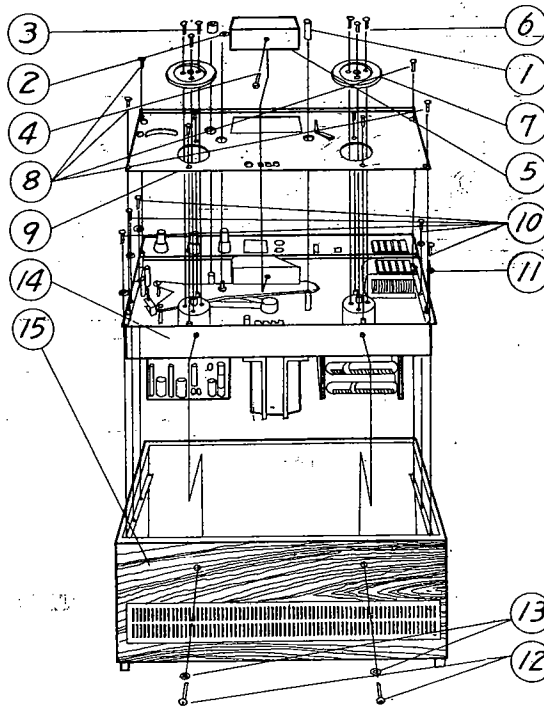

FIG. 3 REMOVING UNIT FROM CASE
3. Remove the following parts and hardware (see Fig. 3).
- Pinch roller (3)
- Dust Cap (2)
- Pull off rubber reel turntable cover (7)
- Reel Tables (7) (left and right) by removing three (each) screws (6)
- Head housing (5) by removing screw (4)
- Remove the collar (1) from guide post
- Four mounting screws (8)
- Face plate (9)
- Five mounting screws (10)
- Two mounting screws (12) and washer (13)